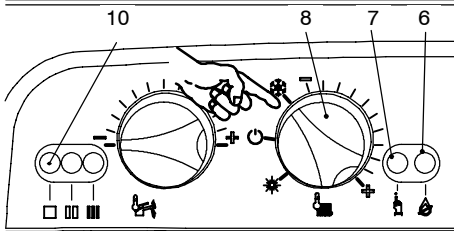

Fig. 7.6
- Turn the function selector 8 as in Fig. 7.6. The appliance operation light 10 will flash every 2 seconds.